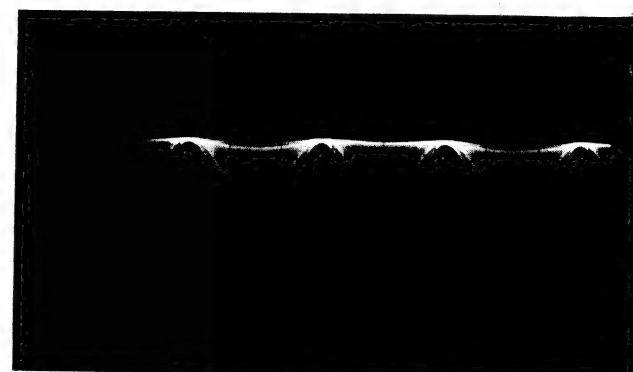
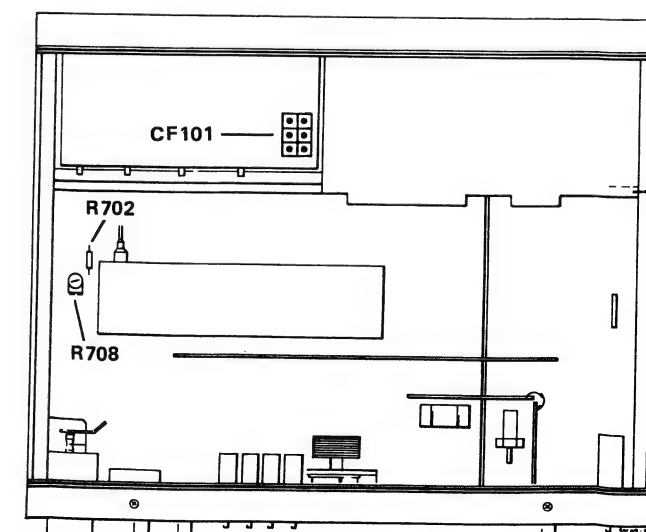

Figure 36 Symmetrical sinewave
Figure 37 Test points
- Fine-tune the tuner for symmetrical sinewave on the oscilloscope (see figure 36).
- Adjust CF101 (Front End, figure 37) for minimum distortion (on the distortion meter) and at the same time maximum d.c.-level and symmetrical sinewave on the oscilloscope (see figure 36).
- Screw R708 fully counterclockwise (see figure 37).
- Connect voltmeter to R702 (see figure 37).